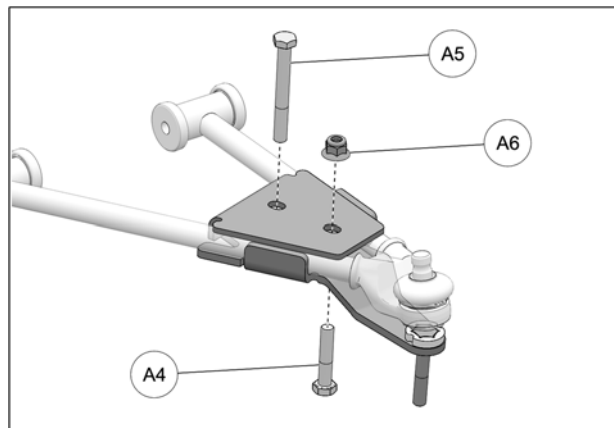

Fig. 17
6. From the top, insert M10x85mm bolt (A5) through bracket cover and bottom part. Insert M10x50mm bolt (A4) through the bottom and secure the two parts together with nut (A6) provided. Tighten assembly to 50 N•m [37 lb•ft] of torque. See Fig. 17